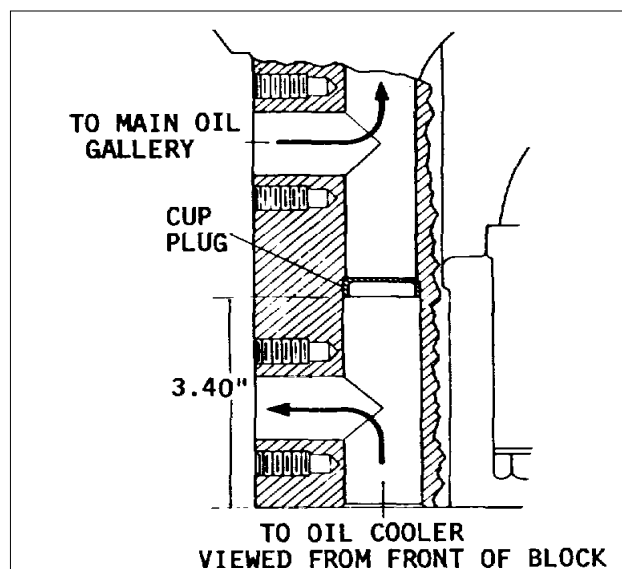

Fig. 3
- (6) Remove the bolts and lockwashers and withdraw the oil cooler housing and oil cooler core as an assembly, using care to avoid dropping the oil cooler core.
- (7) If the oil cooler adapter is to be removed, first remove the oil filter. Then remove the bolts and lockwashers which attach the adapter to the cylinder block and withdraw the adapter and gaskets.
- (8) Clean all traces of gasket material from the cylinder block and the oil cooler components.
- (9) Inspect the vertical oil passage in the cylinder block for the presence of the cup plug which directs the flow of oil through the oil cooler (Fig. 3). Absence of this plug will result in high oil temperature or low oil pressure (resulting from high oil temperature).